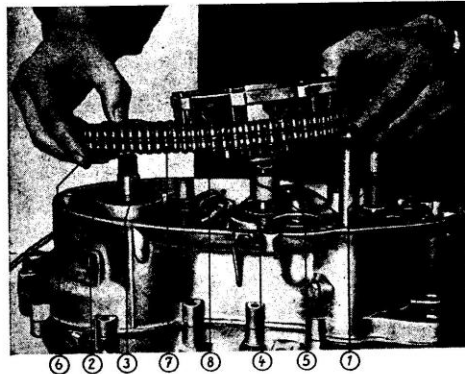

Fig. 15: Clutch
3. Mount the small thrust collar (fig. 15/1) facing the crankcase cover.
1. Put spring washer (fig. 15/2) on the crankshaft stub and insert woodruff key (fig. 15/3). Place check plate (fig. 15/4) and bushing (fig. 15/5) on countershaft.
2. Install engine sprocket (fig. 15/6) together with the chain (fig. 15/7) and clutch drum (fig. 15/8). Mount clutch hub, put in clutch hub holding tool and chain sprocket clamp, fit locking discs on crankshaft stub and countershaft, put on nuts (fig. 17/1/2) and tighten them lightly at first. Check chain tension (see fig. 16). If the sag exceeds 0,276 in., the chain should be exchanged for a new one. After inspection tighten nuts (fig. 17/1/2) and bend up locking discs.